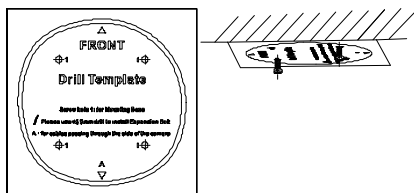

Figure 2-27 Attach the Drill Template
3. Insert two PM4*10 screws into the ceiling, as shown in Figure 2-27.